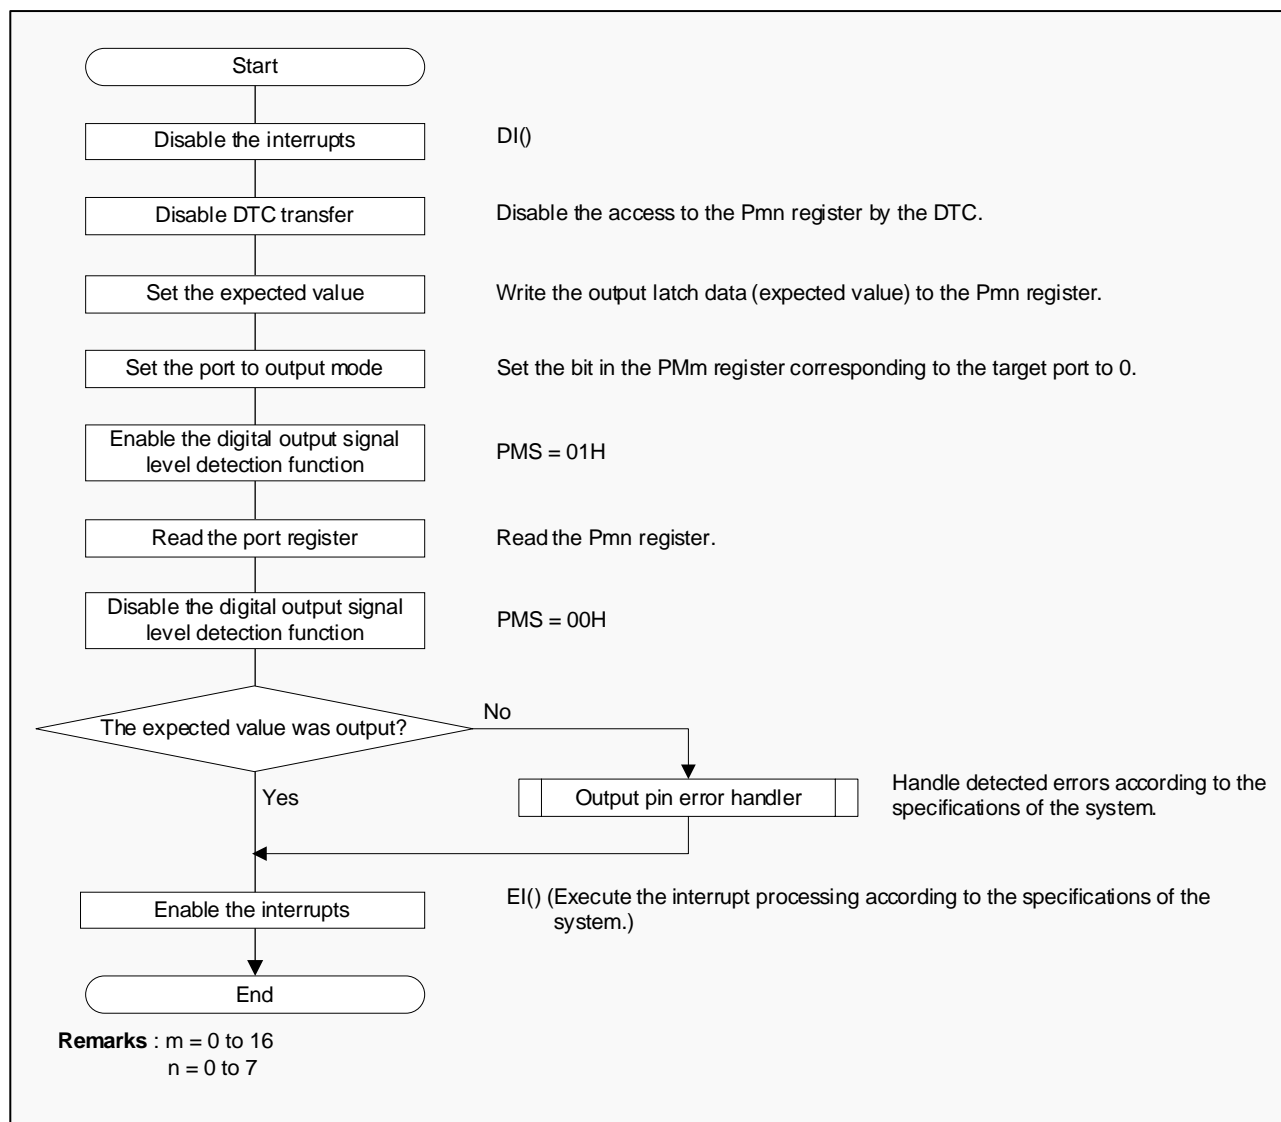

Figure 14-1 Flow Chart of Digital Output Signal Level Detection for I/O ports
Figure 14-1 is a flow chart of the digital output signal level detection for I/O ports.
P.58	Corrected "Figure 14-1 Flow Chart of Digital Output Signal Level Detection for I/O ports".